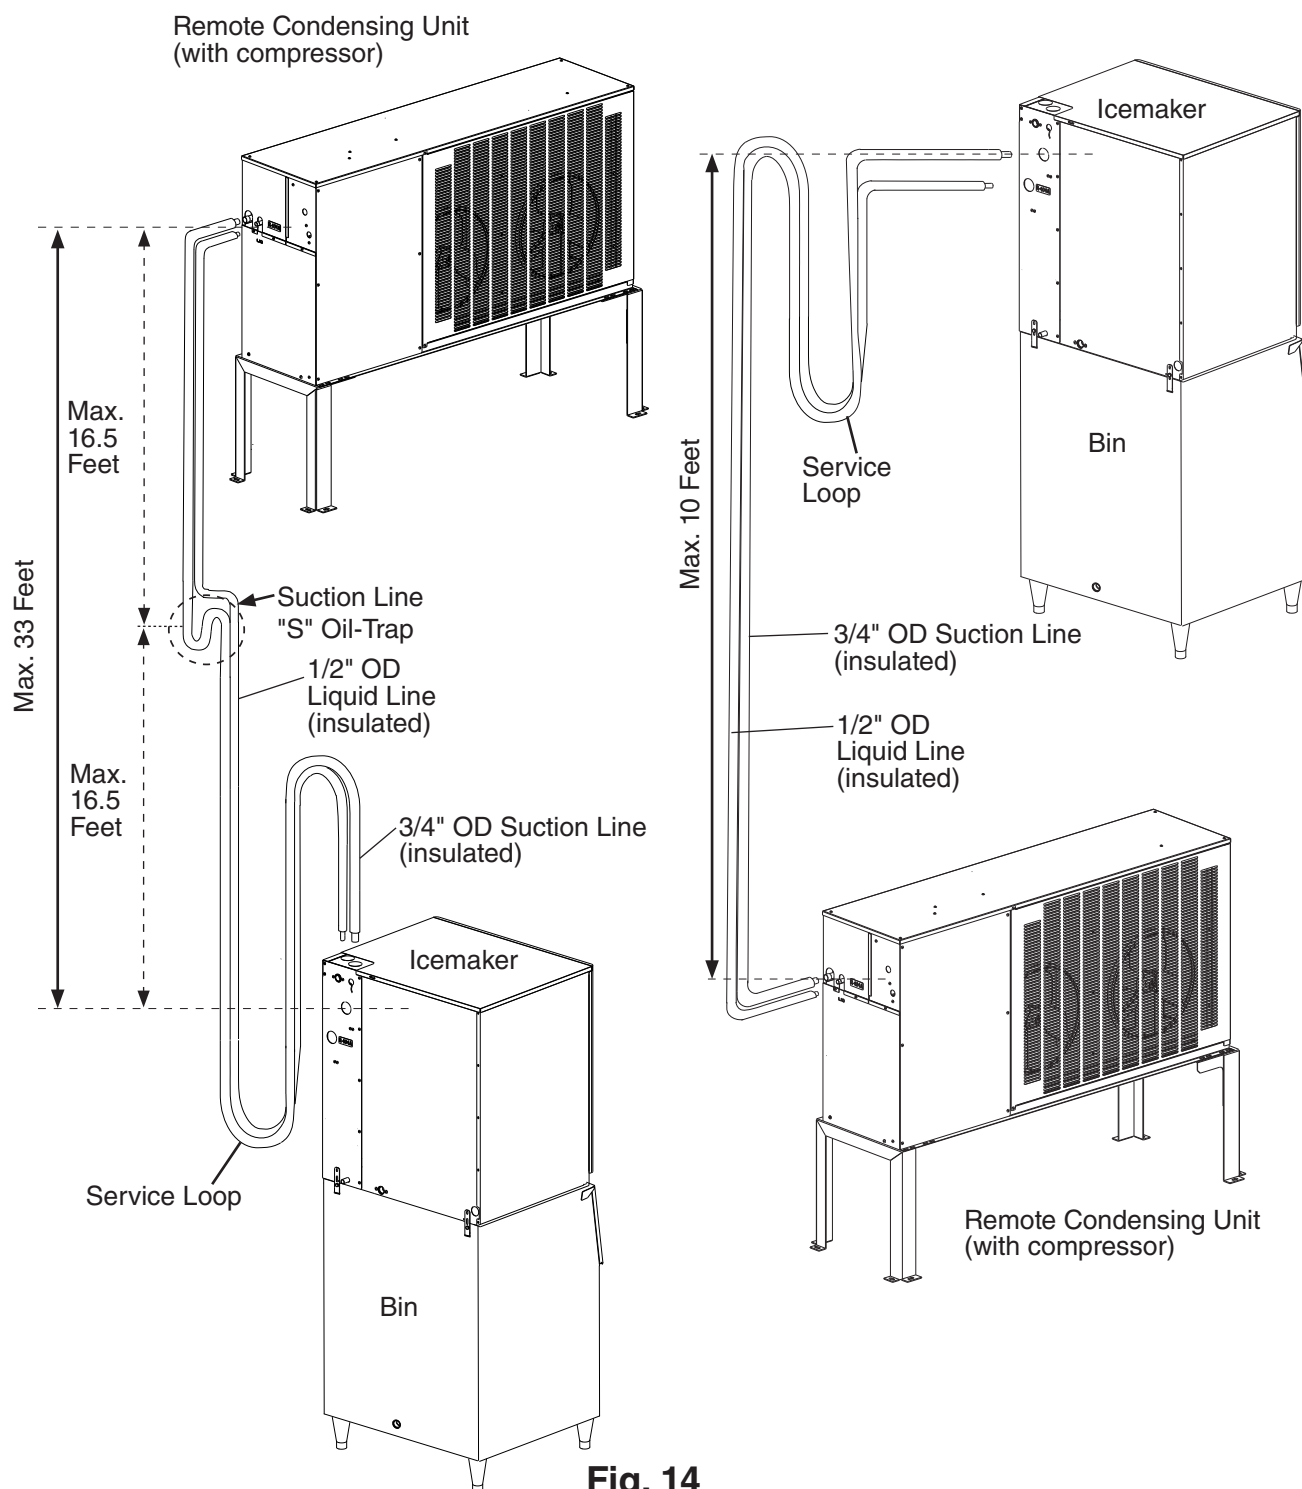

Fig. 14
- The maximum vertical distance between the remote condensing unit and icemaker is 33 feet above or 10 feet below the icemaker. These distances are measured fitting to fitting. See Fig. 14. **NOTICE! Do not exceed maximum vertical distance.**
- 1) Route the appropriate size copper tubing. Insulate the copper tubes separately. Leave a service loop behind the icemaker to allow the icemaker to be pulled out for service. See Fig. 14. Note: The service loop is not considered an oil trap.
- 3) Choose the icemaker/line set configuration (top access or rear access). Use elbows as necessary. When using the top access holes, move the access covers to the rear access holes. See Fig. 14.